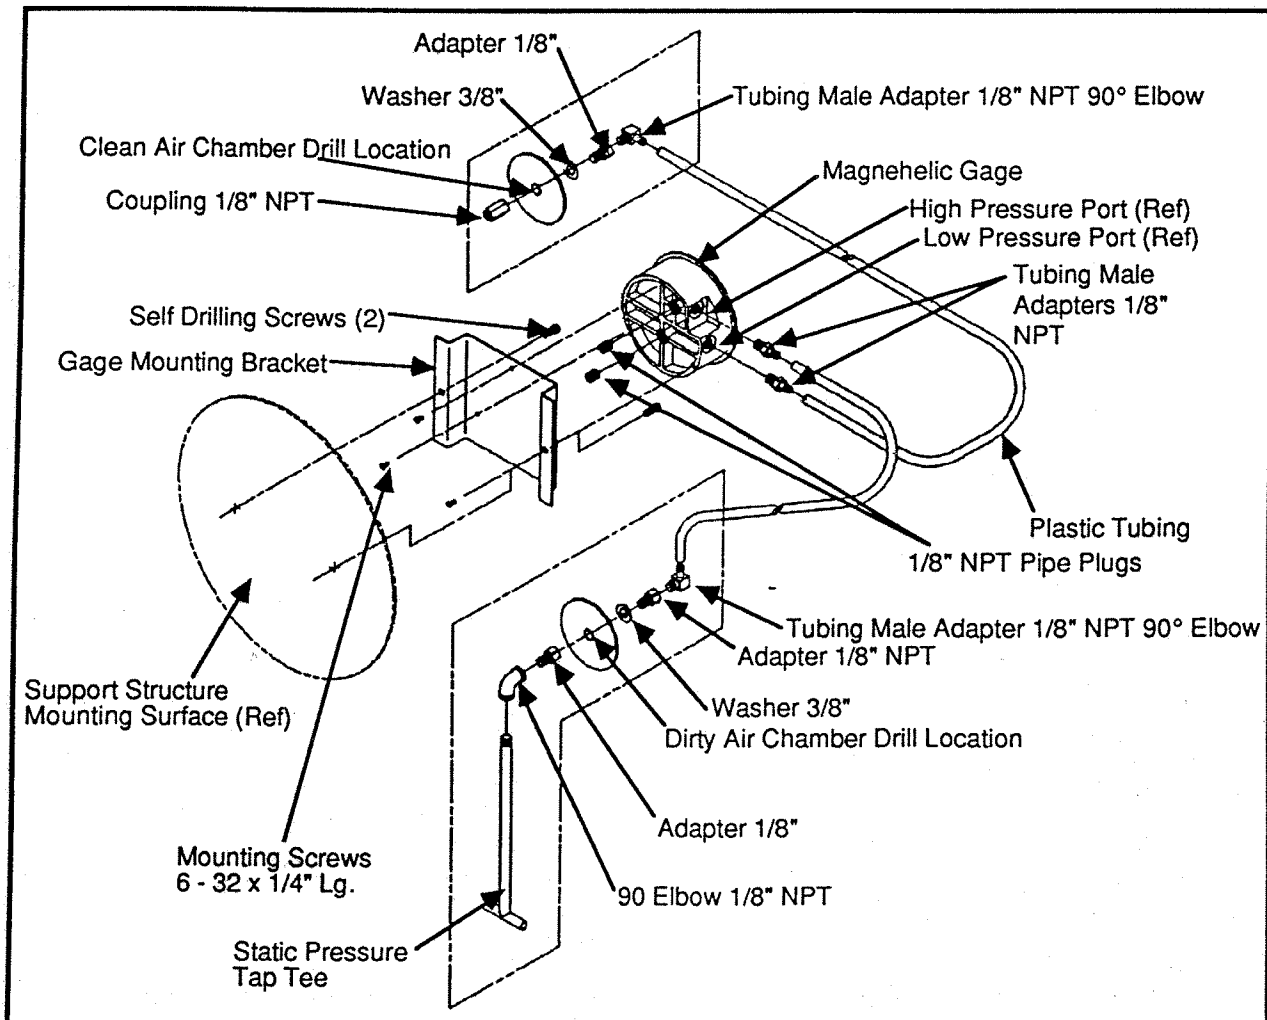

Figure 10
2.7 Assembly of Optional Equipment (See Figure 10)
2.7.1 Magnehelic Gage (See Figure 10)
2. Prior to mounting, plug the pressure ports on the back of the Magnehelic gage using the two (2) 1/8" NPT pipe plugs that are supplied with the gage. Next, install the two (2) 1/8" NPT tubing male adapters that are supplied with the gage
into the openings on the side of the gage marked high and low pressure. Mount the gage to the mounting bracket with three (3) #6 - 32 x 1/4" long screws that are supplied with the gage, as shown in Figure 10.
3. Locate the Magnehelic gage and mounting bracket assembly for the best visual advantage. The plastic tubing will determine the maximum distance from the collector that the mounting bracket and gage can be located. Thirty-five (35) feet of plastic tubing is supplied. Remember that the tubing will have to be cut and that one piece may be longer than the other. If more tubing is required, please contact your local Torit representative. Once the mounting bracket assembly position is determined, mount this assembly to the supporting structure using two (2) self-drilling screws.